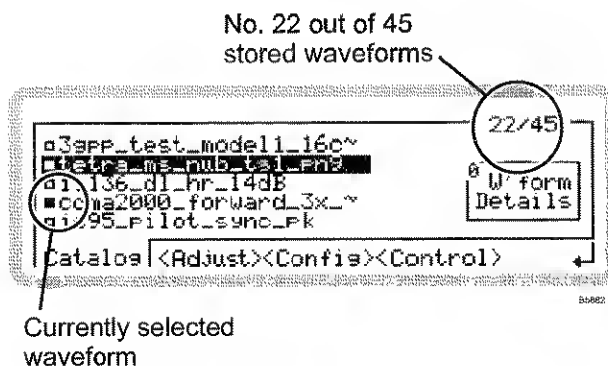
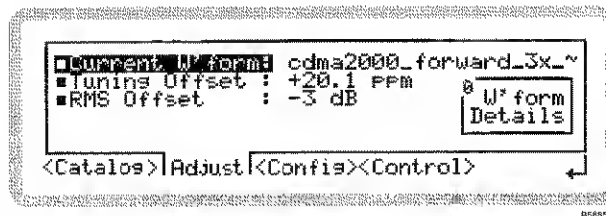
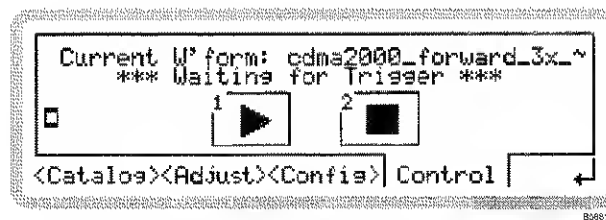

Fig. 3-29 ARB catalog
Fig. 3-30 ARB adjust
Fig. 3-32 ARB control
- 2 Press **SIG GEN** to show the main screen, and touch the **IQ** soft box to select the function. Touch **W'form** and press **↵** to view the ARB catalog menu (Fig. 3-29).
From the ARB catalog menu of Fig. 3-29, touch <Adjust> or press **<TAB>** to display the ARB adjust screen (Fig. 3-30).
From the ARB catalog menu of Fig. 3-29, touch <Config> or press **<TAB>** to display the ARB configuration screen (Fig. 3-31).
From the ARB catalog menu of Fig. 3-29, touch <Control> or press **<TAB>** to display the control screen (Fig. 3-32).